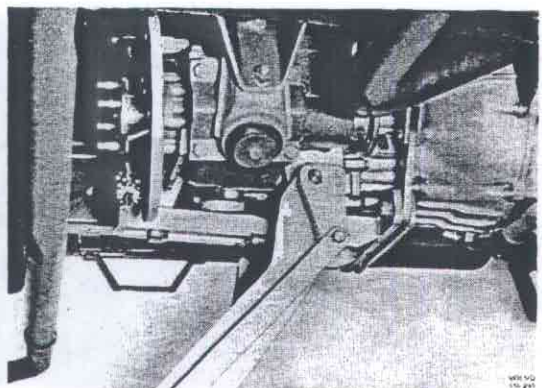
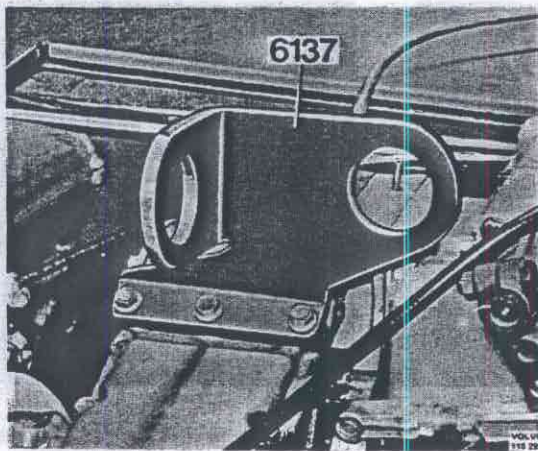

Fig. 43-44. Jack under gearbox
Fig. 43-45. Attaching haist
- 16 Place a jack under the gearbox, Fig. 43-44. Remove the bolts securing the rear engine mounts to the frame. When removing the gearbox with a block and tackle, use tool 6137, see Fig. 43-45.